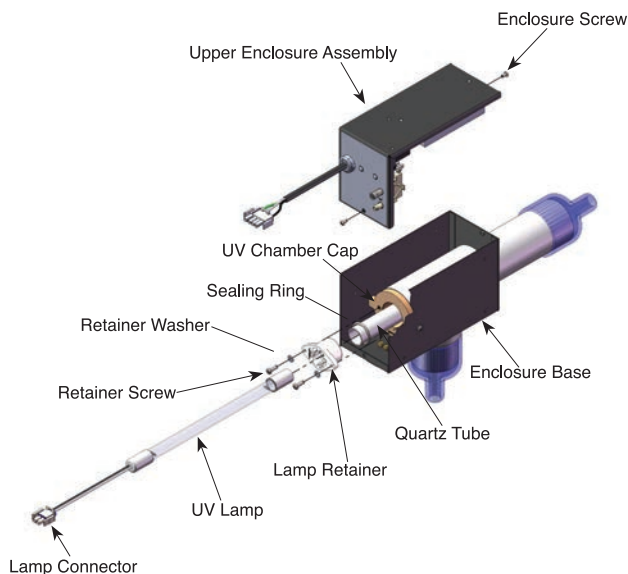

Figure 2: Spa Solar Eclipse Exploded View
a. UV Lamp Removal – See Figure 2.